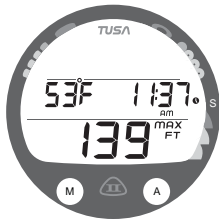

Fig. 79 - GAUG DIVE ALT
Gauge Dive ALT, information includes (Fig. 79) -
- Press and release the A button momentarily (< 2 sec) to access the ALT screen, same as Fig. 79 with Max Depth as 3 dashes.